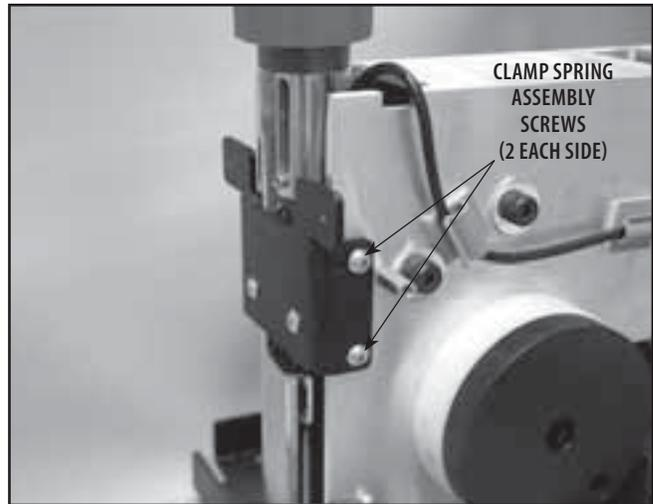

FIGURE 6.27
4. Remove the four Clamp Spring Assembly Mounting Screws. See Figure 6.27.